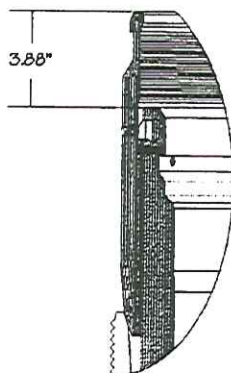
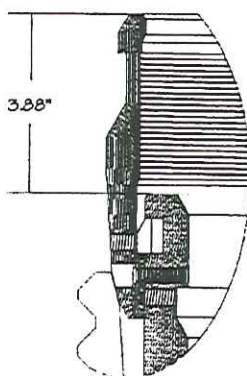

Figure 2a. Actuator ring in extended position
Figure 2b. Actuator ring in extended position
- b. Confirm the actuator ring is fully extended. It should measure 3.88" from the top of the actuator ring to the face of the Lockdown Sleeve main body. Refer to **Figure 2a** and **Figure 2b**.